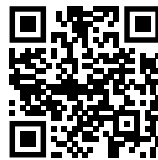

Fig. 102
- ▶ Open Liebherr SmartMonitoring Dashboard. (see Fig. 102)